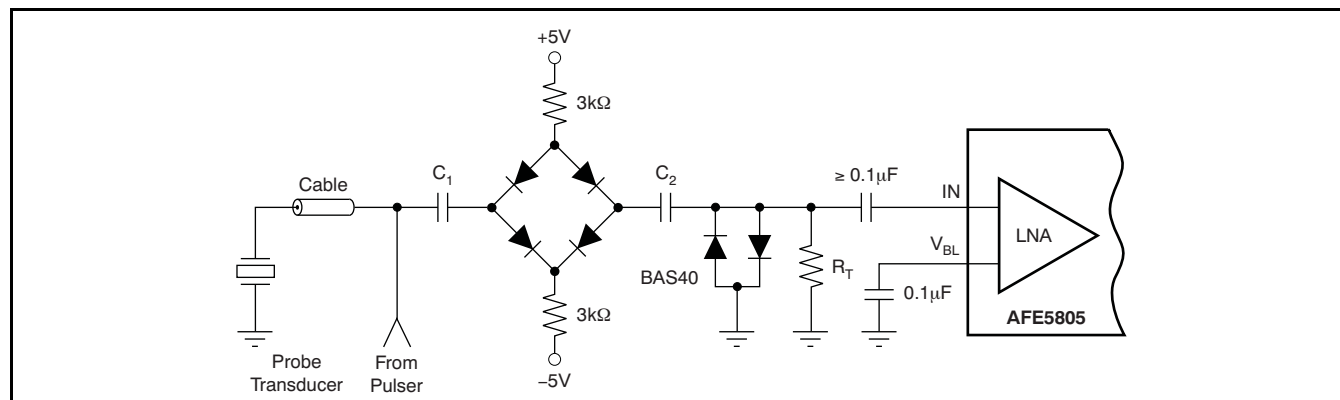

Figure 51. Typical Input Overload Protection Circuit of an Ultrasound System
The AFE5805 is designed in particular for ultrasound applications where the front-end device is required to recover very quickly from an overload condition. Such an overload can either be the result of a transmit pulse feed-through or a strong echo, which can cause overload of the LNA, PGA, and ADC. As discussed earlier, the LNA inputs are internally protected by a pair of back-to-back diodes to prevent severe overload of the LNA. Figure 51 illustrates an ultrasound receive channel front-end that includes typical external overload protection elements. Here, four high-voltage switching diodes are configured in a bridge configuration and form the transmit/receive (T/R) switch. During the transmit period, high voltage pulses from the pulser are applied to the transducer elements and the T/R switch isolates the sensitive LNA input from being damaged by the high voltage signal. However, it is common that fast transients up to several volts leak through the T/R switch and potentially overload the receiver. Therefore, an additional pair of clamping diodes is placed between the T/R switch and the LNA input. In order to clamp the over-voltage to small levels, Schottky diodes (such as the BAS40 series by Infineon®) are commonly used. For example, clamping to levels of
As Figure 51 shows, the front-end circuitry should be capacitively coupled to the LNA signal input (IN). This coupling ensures that the LNA input bias voltage of $+2.4\text{V}$ is maintained and decoupled from any other biasing voltage before the LNA.
Within the AFE5805, overload can occur in either the LNA or the PGA. LNA overload can occur as the result of T/R switch feed-through; and the PGA can be driven into an overload condition by a strong echo in the near-field while the signal gain is high. In any case, the AFE5805 is optimized for very short recovery times, as shown in Figure 51.